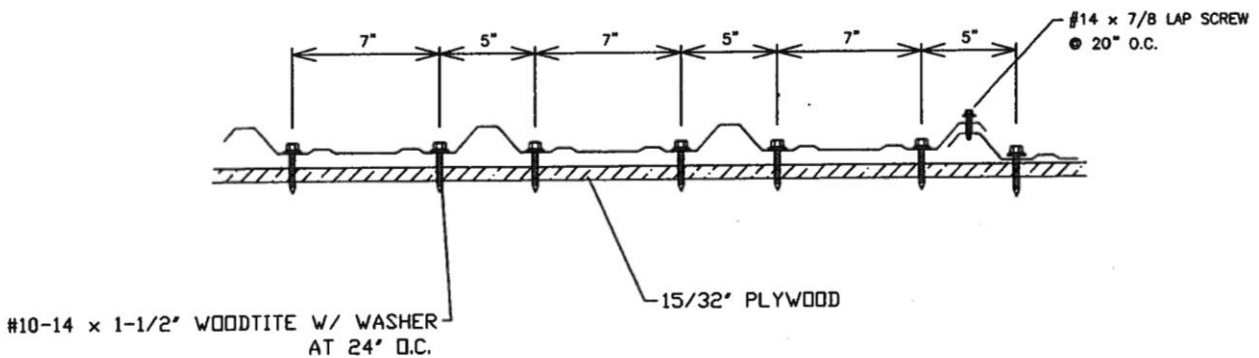

Figure 1. Fasteners at Panel Ends
**Panel Ends:** Minimum No. 10-14 x 1-1/2" WoodTite with sealing washer at 7"-5"-7"-5"-7" fastener pattern. The fasteners must be long enough to ensure a minimum penetration of 1/4" below the roof deck. Refer to Figure 1 for an illustration of the fastener pattern.